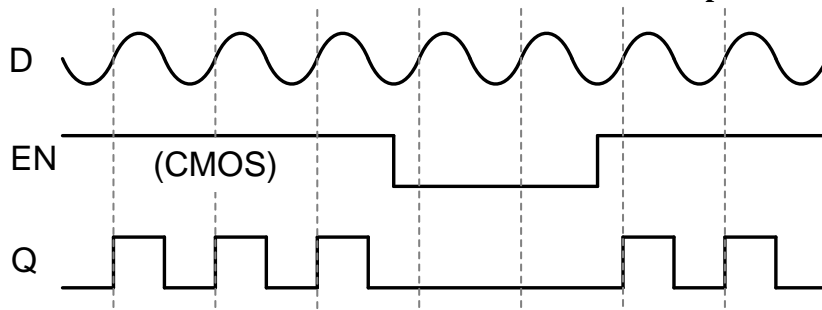

Figure 2 - Timing Diagram
Figure 2 illustrates the timing sequences for the AZP92 in the  $\div 1$  mode which is determined by leaving the DIV-SEL open (NC). It also illustrates the enable in the active High mode being controlled by a CMOS signal. This mode is determined by leaving the EN-SEL open (NC).